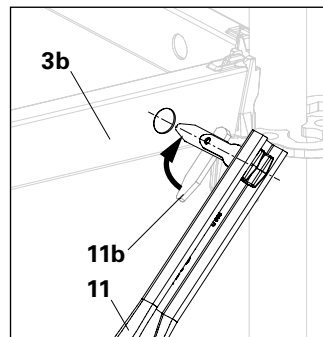

Fig. A2.19c
2. Pivot gravity pin (**11b**). (Fig. A2.19c)